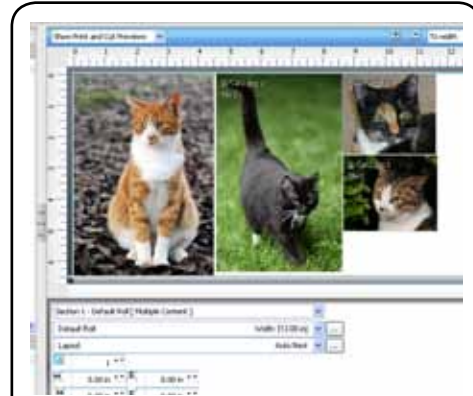

Fig. 29 - Automatic nesting will collect and reposition jobs to conserve media.
- **Automatic Nesting** – Collect and reposition jobs to conserve media (Fig. 29), and then begin printing when there are enough jobs to fill an entire sheet or roll. Alternatively, specify that printing should begin when a certain proportion of the media can be filled.